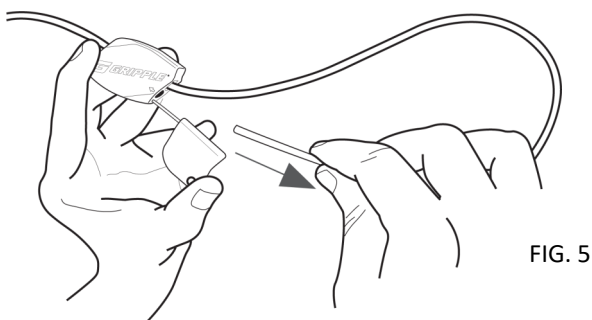
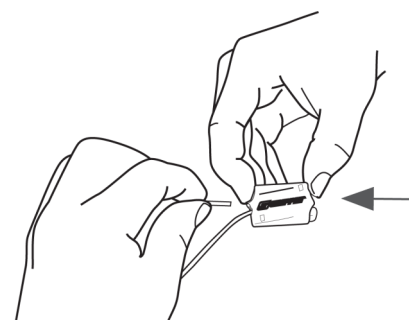

FIG. 5
FIG. 6
- The standard Gripple will need a tool for release (Fig. 5). The express Gripple can be released without a tool (Fig. 6).